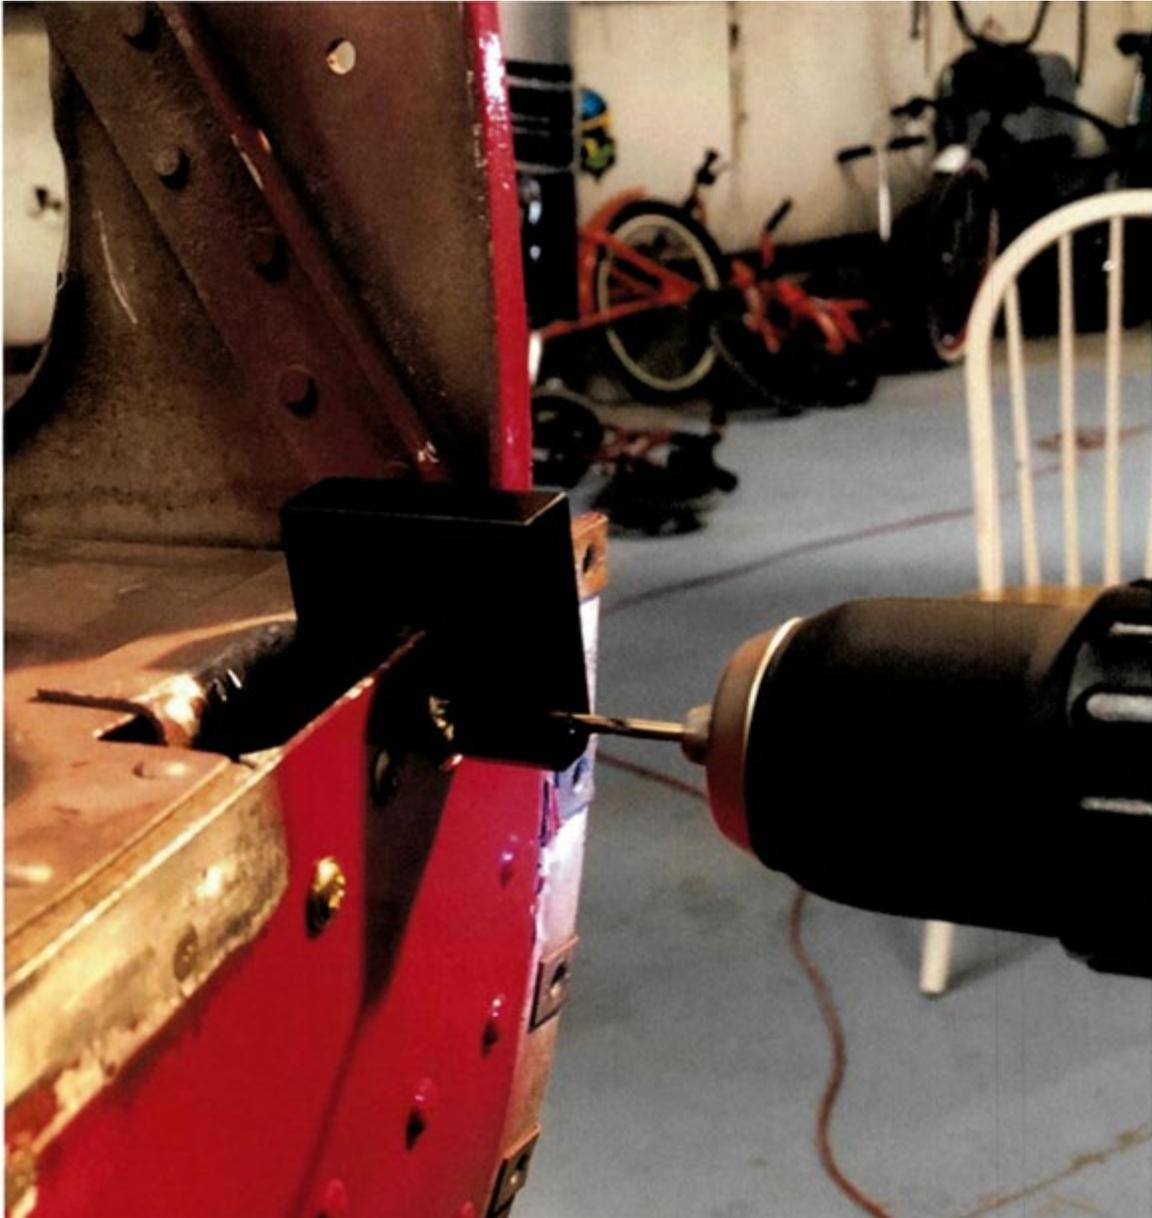

Figure 31: Drill pilot hole through reinforcement splice
19. Using a #40 drill bit, drill a pilot hole through the tail cone reinforcement angle splice using the installed drill guide fixture as shown in Figure 31.